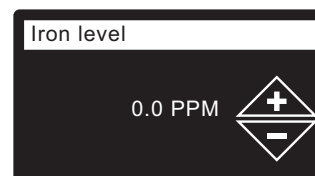

FIG. 32
15. **IRON LEVEL** Press the UP (▲) or DOWN (▼) buttons to set the value for iron in your water (See Figure 32).